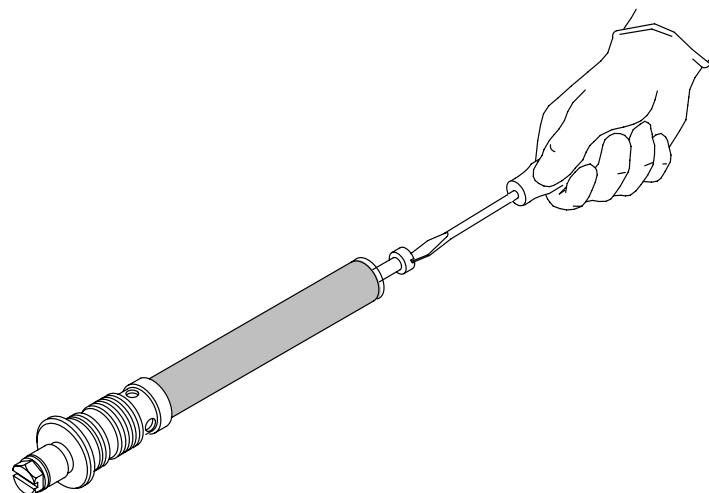

Figure 5-3 Removing the filter screen
6. See Figure 5-3. Remove the screw in the back of filter assembly and separate the filter screen from the assembly.